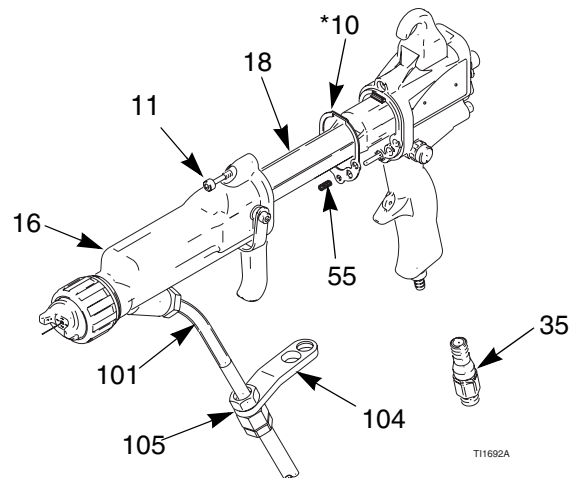

Fig. 29. Barrel Installation
1. Be sure the gasket (10*) and grounding spring (55) are in place. Make sure the gasket air holes are aligned properly. Replace if damaged. See FIG. 29..
2. Place the barrel (16) over the power supply (18) and onto the gun handle (17).
3. Tighten the three screws (11) oppositely and evenly (about a half turn past snug).